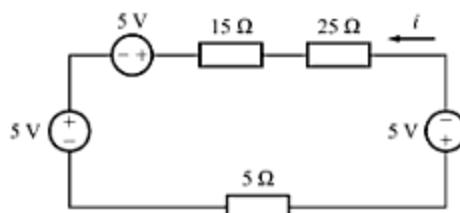

Fig. A-59
- A-10. Determine the current *i* in the circuit of Fig. A-59. [Ans. -0.333 A]